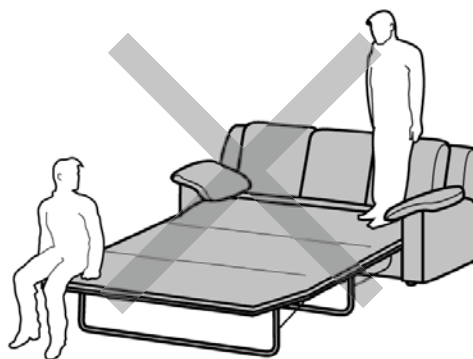

Fig. 1
- Avoid sitting on the edge at the foot of the bedspring (Fig.1)